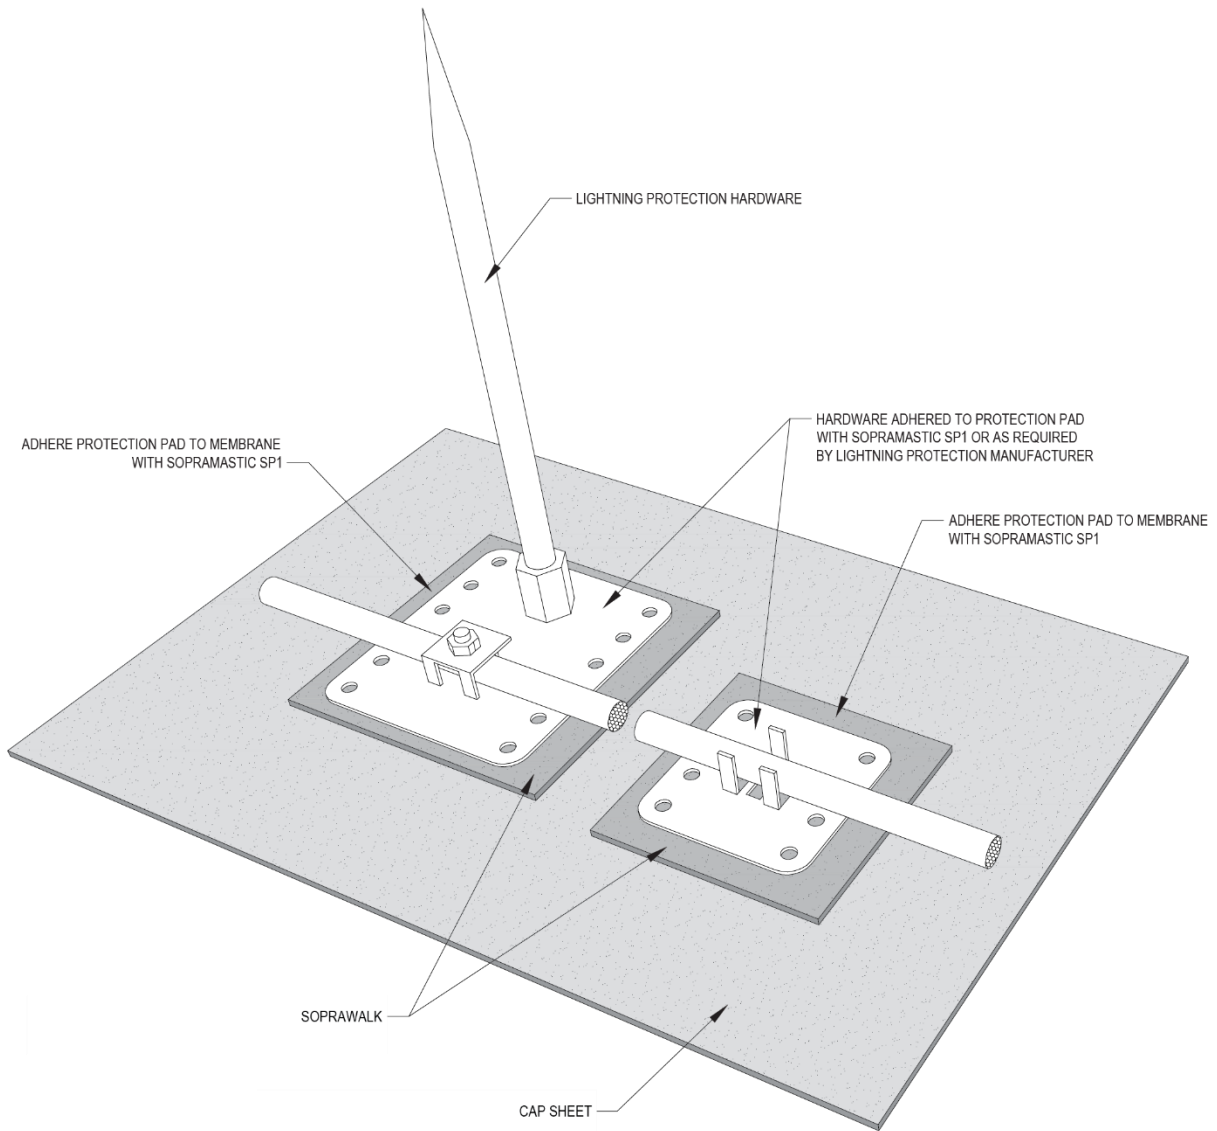

Figure 5.1e Protection Pad on Granule Surfaced Cap Sheet
- For equipment protection pads such as for lightning protection, refer to Figures 5.1e through 5.1f.